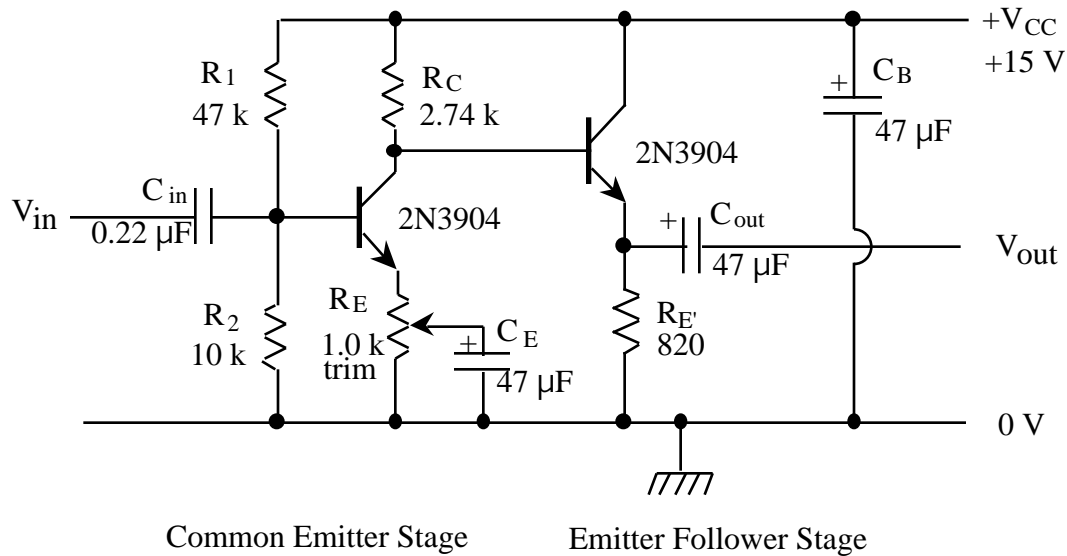

Figure 7.5 Complete Two-stage Amplifier Circuit
Now R stands for whatever impedance is connected to the base. For our two-stage amplifier shown in Figure 7.5, the emitter-follower base is connected to the collector of a common emitter stage, and so R is the output impedance of that stage, which is equal to R_C .
- Calculate the output impedance for the emitter follower circuit shown in Figure 7.5. What fraction of the original output amplitude do you expect to obtain when you attach the $560\ \Omega$ load to the emitter follower output?
Assemble the emitter follower circuit shown in Figure 7.5. Do not connect the 560 Ω load to the output yet.